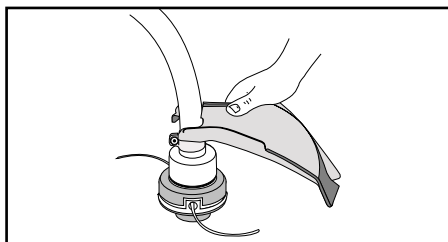

Fig. 3
1. Place the string guard onto the boom above the clamp assembly (Fig. 3).